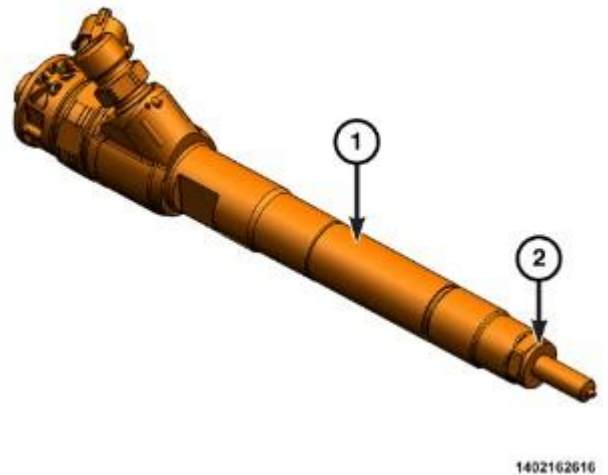

Figure 51 – Lower Sealing Washer
- 94. Install a **NEW** sealing washer (2) onto the fuel injector (1) (Figure 51).